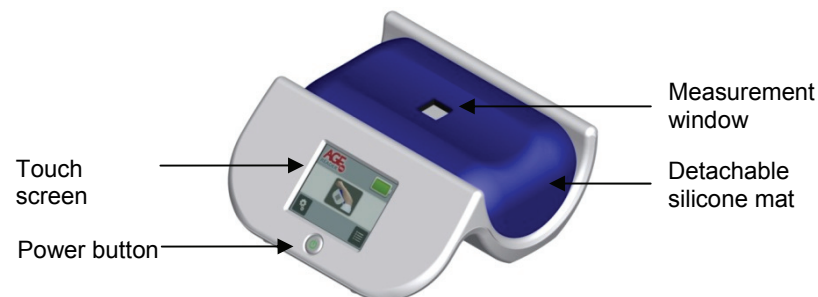

Figure 1. AGE Reader mu front side
The AGE Reader mu (figure 1) has the following external features:
4. The AGE Reader mu can now be turned on by the power button located on the front of the AGE Reader mu (figure 1). The 'standby' symbol on the button will light up green if the device is in its 'power on' state.
Turn the AGE Reader mu on by pressing the 'power button' (figure 1). During the start-up phase nothing is displayed on the touchscreen and the power button will not be lit. Part of this initialization is a self-test of the AGE Reader mu's internal light sources. Notice that some light will be emitted from the measurement window for a short period during this phase this is completely harmless.
Turn the AGE Reader mu off by pressing the 'power button' (figure 1).